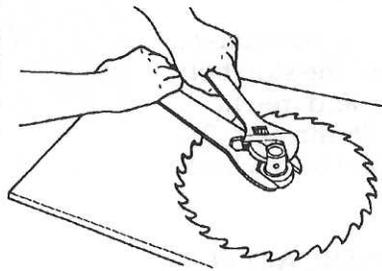
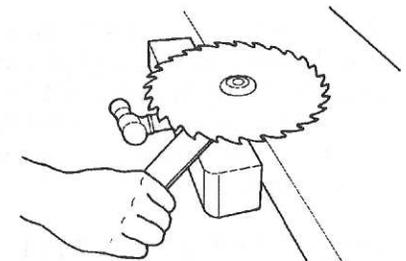

Fig. B-59d
Fig. B-59e
d. Hold the arbor with an adjustable wrench and tighten the arbor nut with the arbor wrench, as demonstrated in Fig. B-59d. Another way to tighten the arbor nut is to clamp the arbor in a bench vise, as illustrated in Fig. B-59e, and tighten the nut with the arbor wrench.